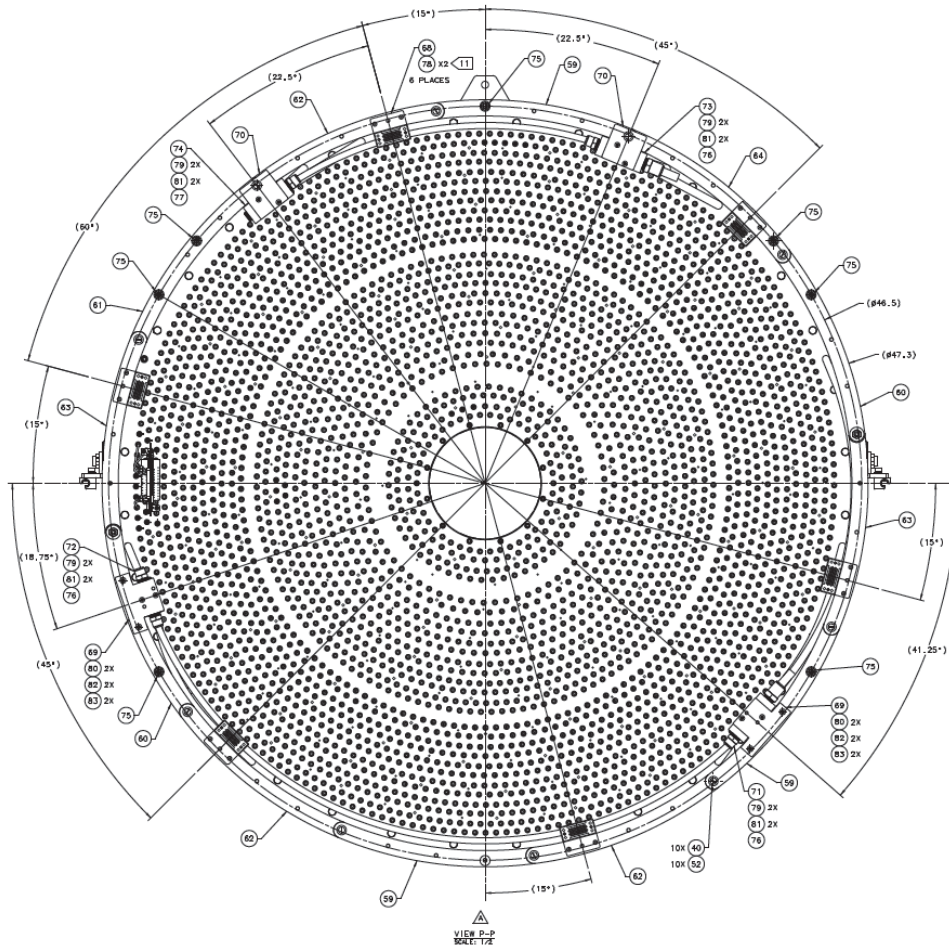

Fig 2
5. Connect supply and exhaust gas lines as shown in figures 2 and 3.
6. Connect high voltage, low voltage and signal cables as shown in figures 2 and 3.